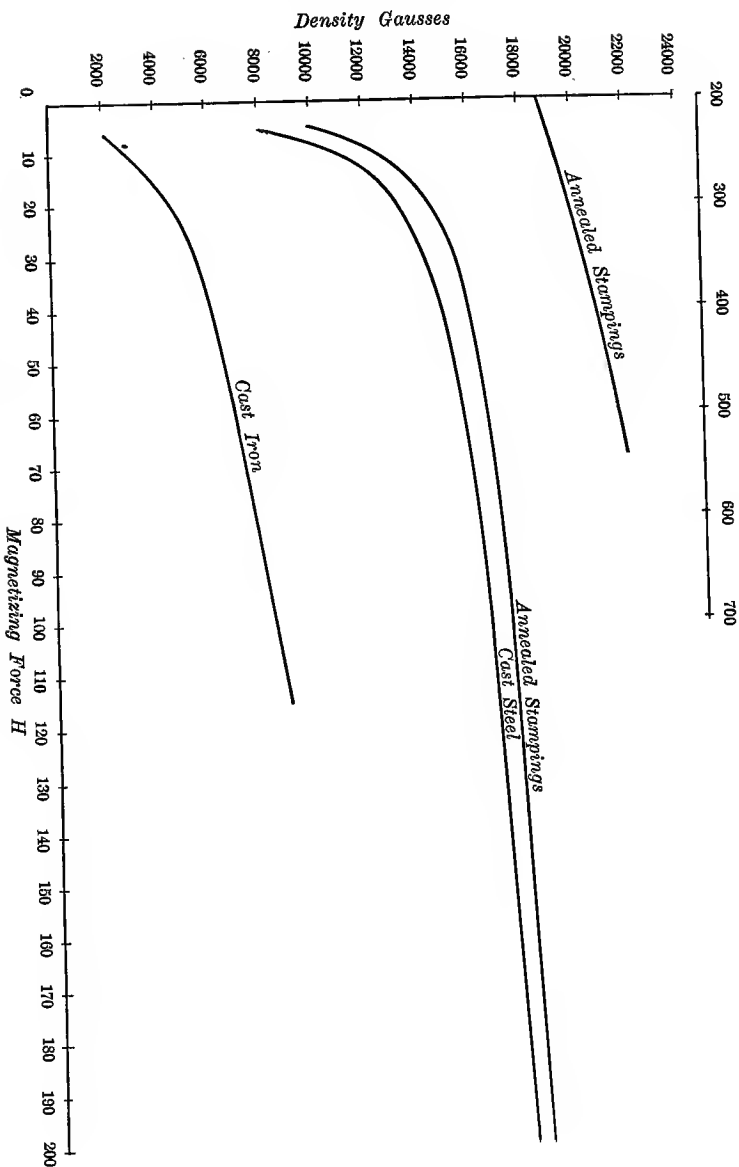

FIG. 31
2. The average length of the flux path through an armature core is 28 centimeters, and its cross section is 100 square centimeters. Selecting a value of H from the curve for stampings (Fig. 31) corresponding to the value of B for the flux of Problem 1, and remembering that only half the given length of path is to be considered as belonging to one pole, and that half the flux from a pole goes in each direction through the armature, calculate the ampere turns per pole required for the armature core.